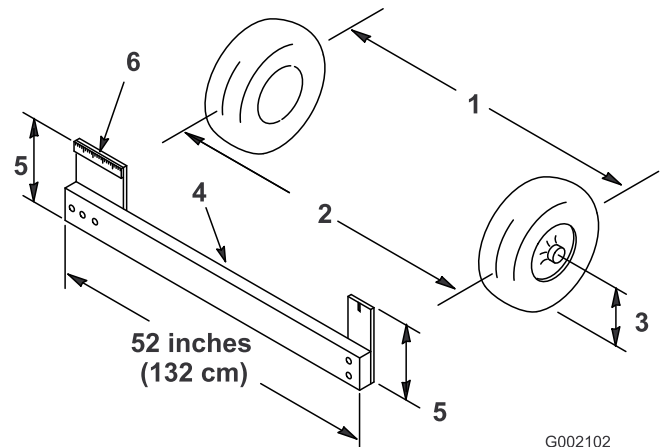

Figure 15
1. Measure the distance between both of the front tires at the axle height at both the front and rear of the front tires (Figure 15). A fixture or alignment gauge is needed for the rear measurement of the front tires at axle height. Use the same fixture or alignment gauge to accurately measure the front of the front tires at axle height (Figure 15).